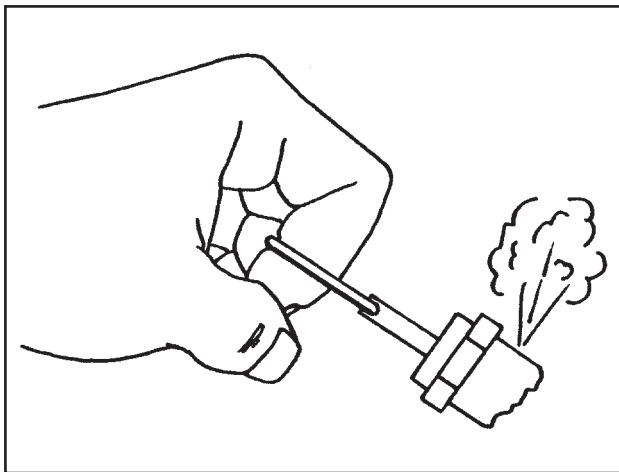

Fig. 3-11 Checking Pressure Relief Valves & Relieving System Pressure
Step 2) Tanks subjected to freezing temperatures may contain ice. Store the compressor in a heated area before attempting to drain moisture from the tanks. Reduce the air pressure in the tank to 30 PSIG by pulling the pressure relief valve ring (refer to **Fig. 3-11, Checking Pressure Relief Valves & Relieving System Pressure**).